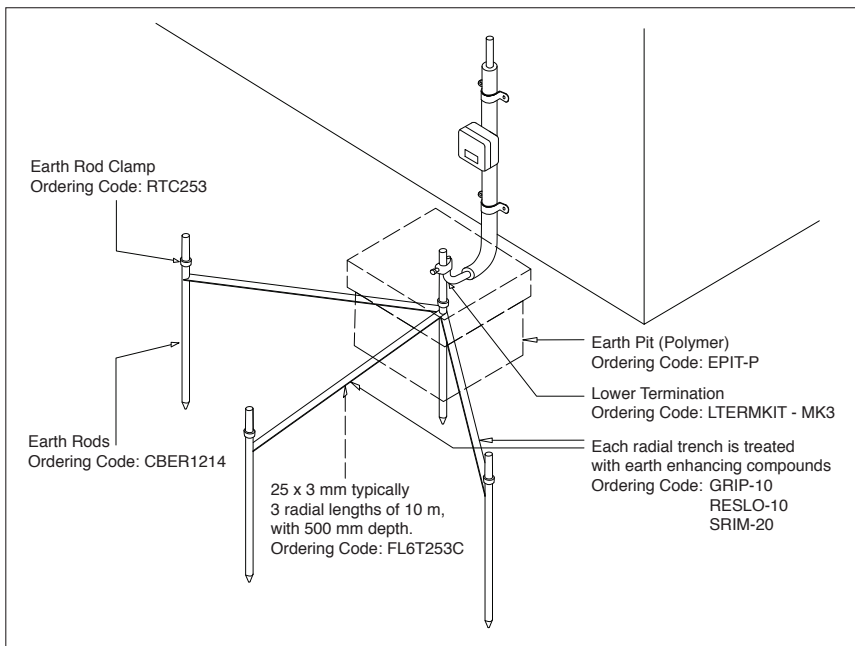

Figure 10.
LPI recommends the installation of a radial lightning earth as shown in figure 10.
- An earth pit should be installed where the end of the downconductor terminates to the lightning earth as shown in figure 10. This gives an access point for disconnection and future testing